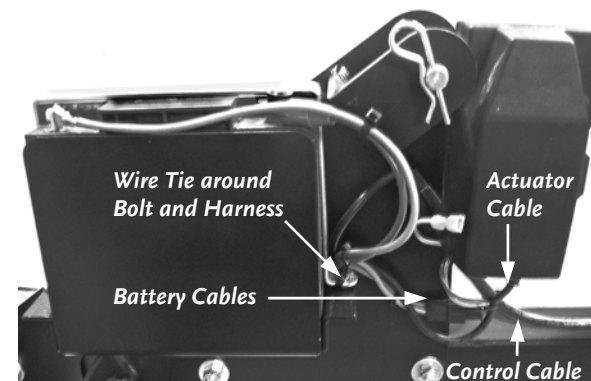

Figure 10
5. Connect the Control Cable to the Linear Actuator and Battery Cables (Figure 10).
6. Using a Wire Tie around the exposed portion of the Battery Clamp Bolt between the Clamp and Frame, secure the Wire Harness as shown in Figure 10. Clip off access Wire Tie material.